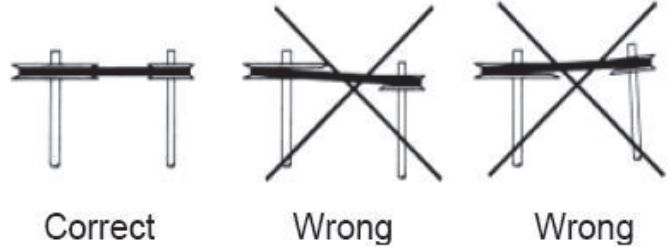

Figure 3: Pulley Alignment
8. With the motor positioned as close as possible to the blower shaft, install the V belt within the sheave grooves. Adjust the sheave on the blower shaft to ensure proper pulley alignment (See Figure 3) and secure in place. A straight edge across the face of the driven pulley should be parallel to the belt once proper alignment has been achieved. (see Figure 3)